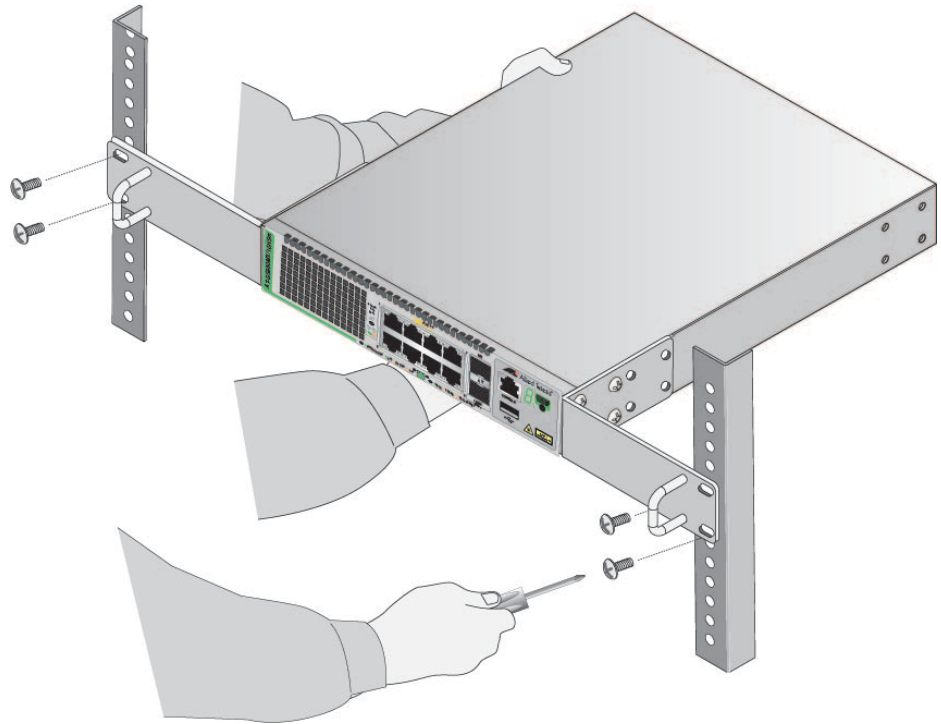

Figure 30. Installing the AT-GS980MX/10HSm Switch in an Equipment Rack with the RKMT-J14 Brackets
4. Have another person hold the switch at the desired location in the equipment rack while you secure it using four standard equipment rack screws (not provided). Refer to Figure 30.